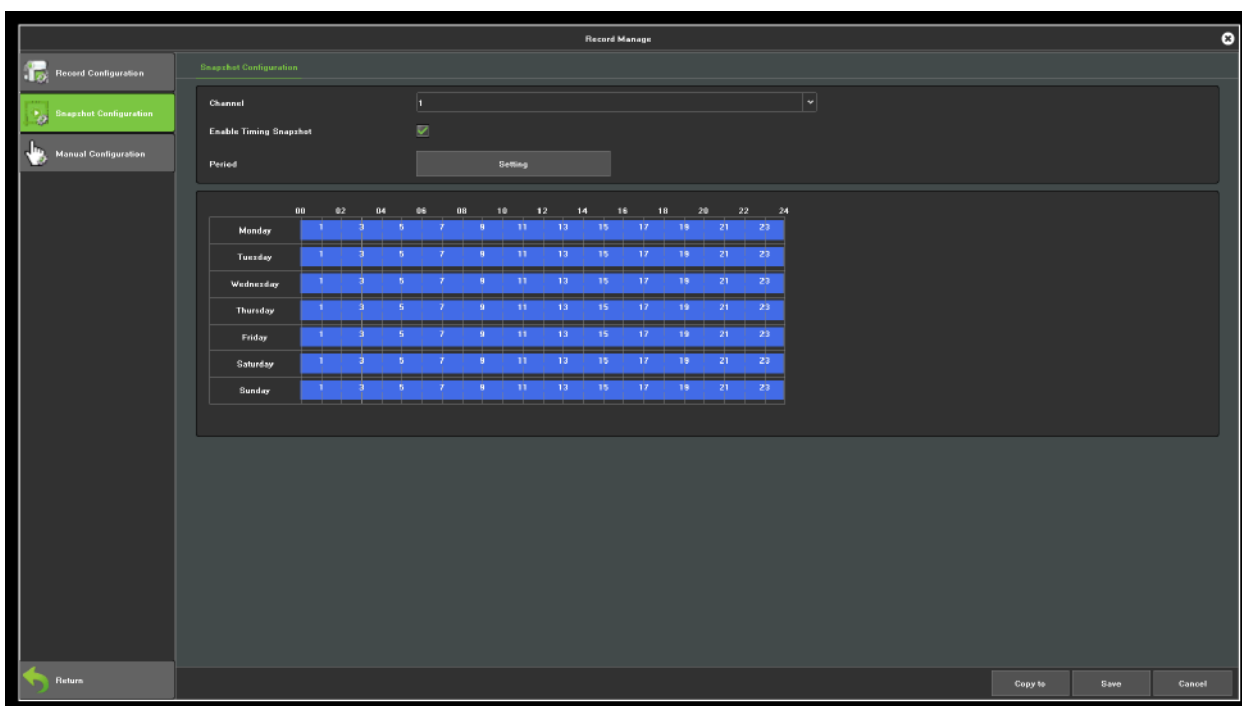

Figure 8.1 Record Setting Interface
1. Enter the **Record Configuration** interface to configure the recording parameters, as shown in Figure 8.1.